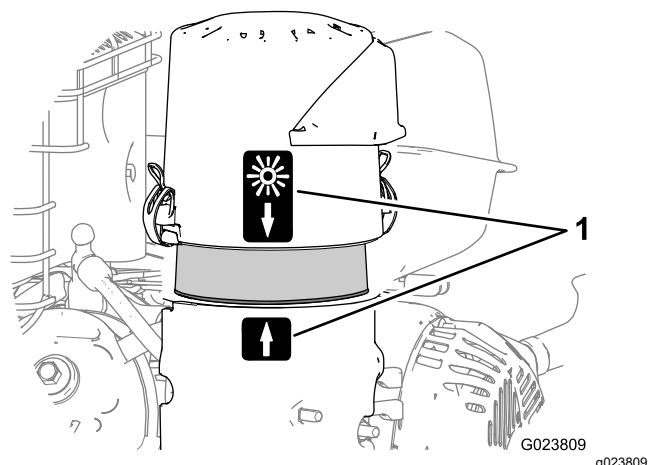

Figure 26
- Align the arrow decal on the air-cleaner cover and the arrow decal on the base (Figure 26).